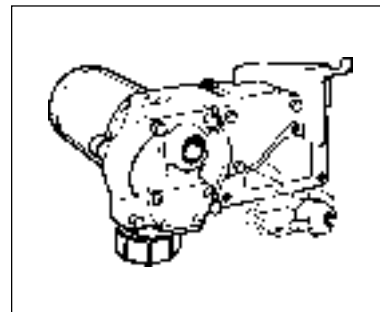

Figure 15
4. Remove the torx head screw, then remove the switch assembly. (Figure 15)